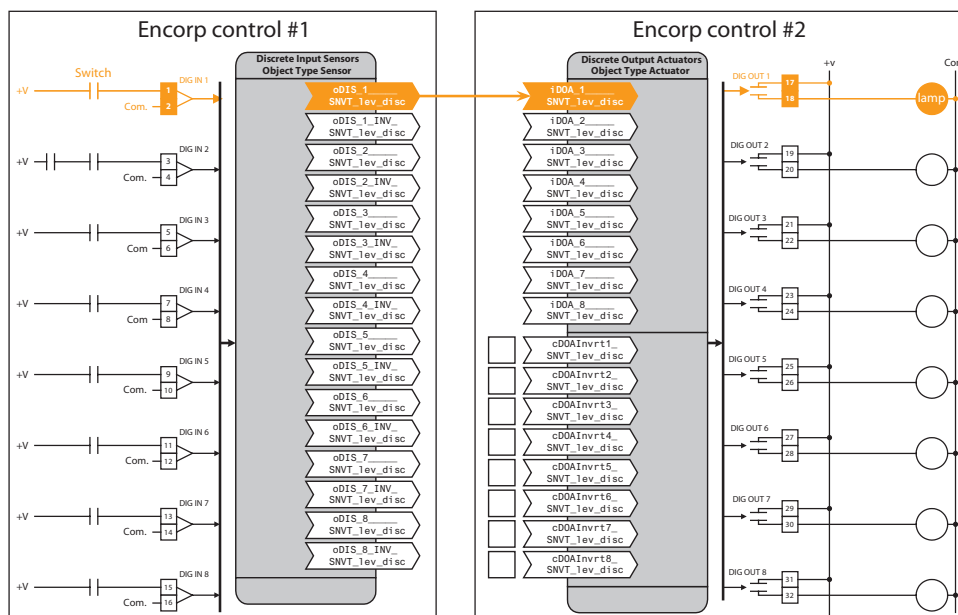

Figure 1 External Bindings
- Bindings that connect two or more objects on different controls are called external bindings (Figure 1). Bindings are a function of the Echelon LONWORKS standard used by all Encorp controls. Using the NST, you can create bindings between any nodes on the LONWORKS network. Encorp produces a standard binding set as an off-the-shelf product for each control type. In addition, Encorp can produce custom binding sets for virtually any application. Standard binding sets may be modified or